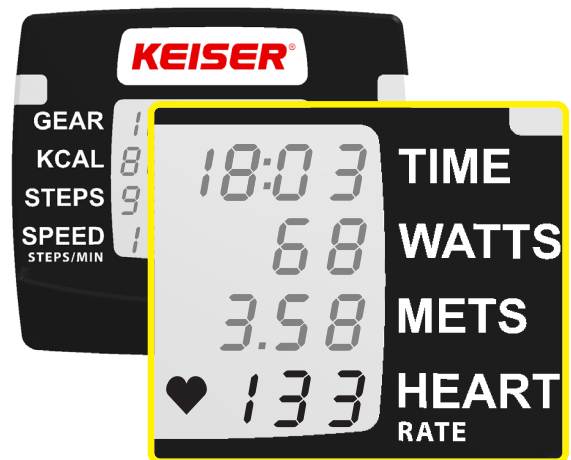

Figure 16. Average BPM Shown at End of Session
- After your session, your average BPM appears next to a solid heart icon (see Figure 16).